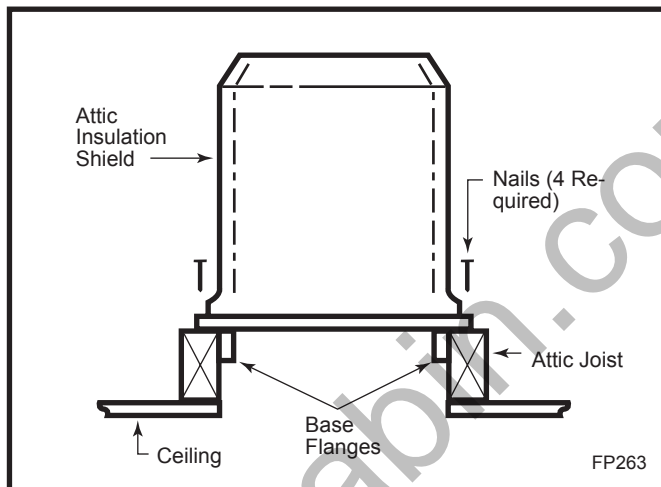

Fig. 31 Attic shield installation.
- The minimum height of the vent above the highest point of penetration through the roof is 2' (610 mm). (Fig. 31)